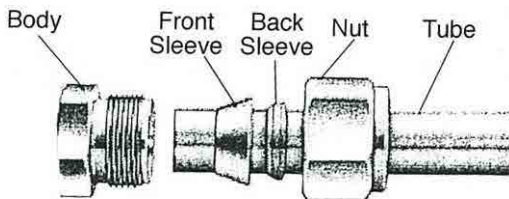

Figure 9 - Compression Fitting
- Step 4: Slide the tubing into the open connection point and tighten the nut to secure the tubing. Refer to Figure 9. Fitting Connections for assistance to assemble the tubing connection. Refer to Figure 10 - Utility Connections for assistance locating the proper fitting connection on the enclosure for the sample to be connected.
All wet and air connections are made with user supplied OD tubing using the compression fittings attached to the SSR-Ex. All air and water tubing connected to the instrument is to be supplied by others. When using the compression fittings, see Figure 9 - Compression Fitting and then follow these steps: